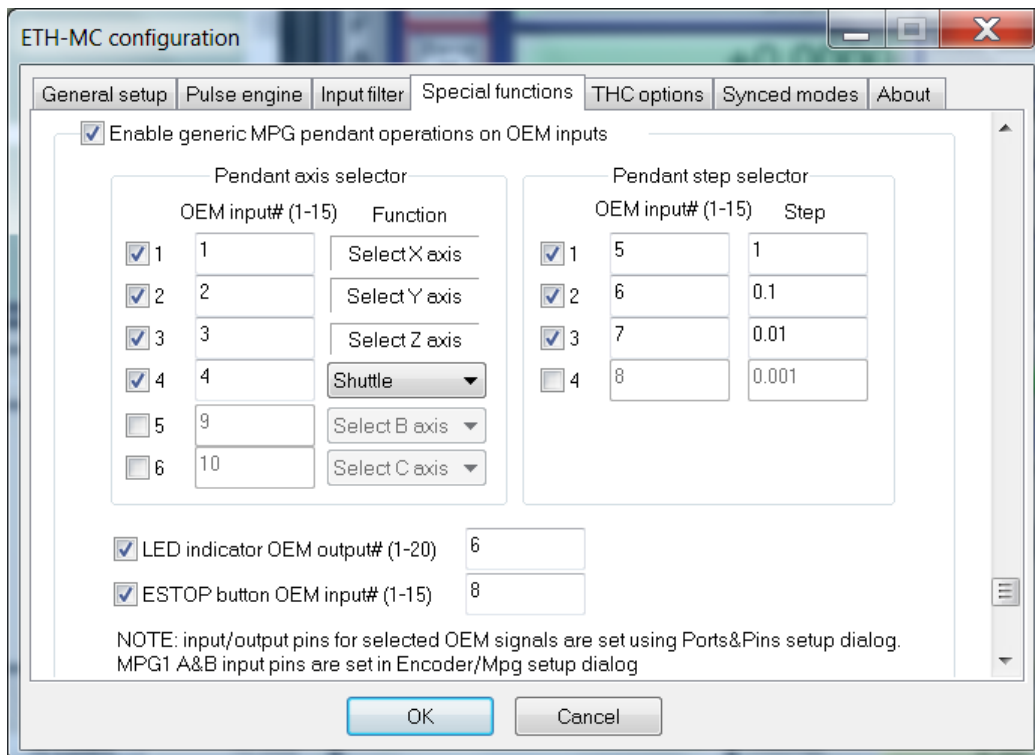

Figure 3.3 An example setup of functions for pendant with 4 positions for axis selector switch and 3 positions for step selector switch
Options for pendant functions can be adjusted using ETH-MC configuration dialog box. Within **Special Functions** group there is a group of options for pendant (Figure 3.3).
Available options (Figure 3.3) are:
- Pendant step selector – this option group enables setting up pendant step selector (Figure 3.3). Maximally 4 positions are supported for step selector. OEM input# and Step fields enable setting up OEM input and step value for each position.